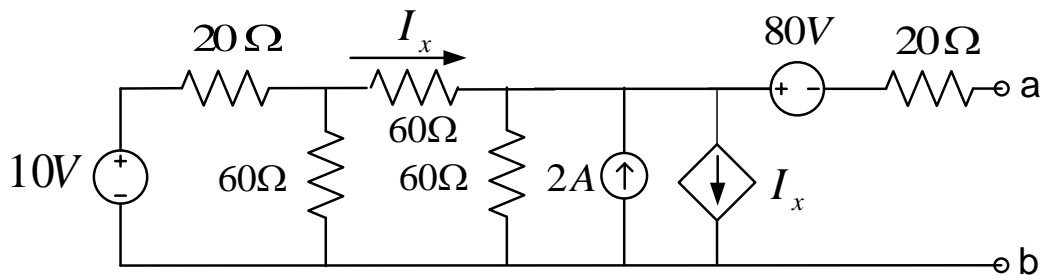

Fig. Q1 (b)
- (c) In the Figure Q1 (c), the switch S was closed for very long time before it is opened at time $t = 0$.